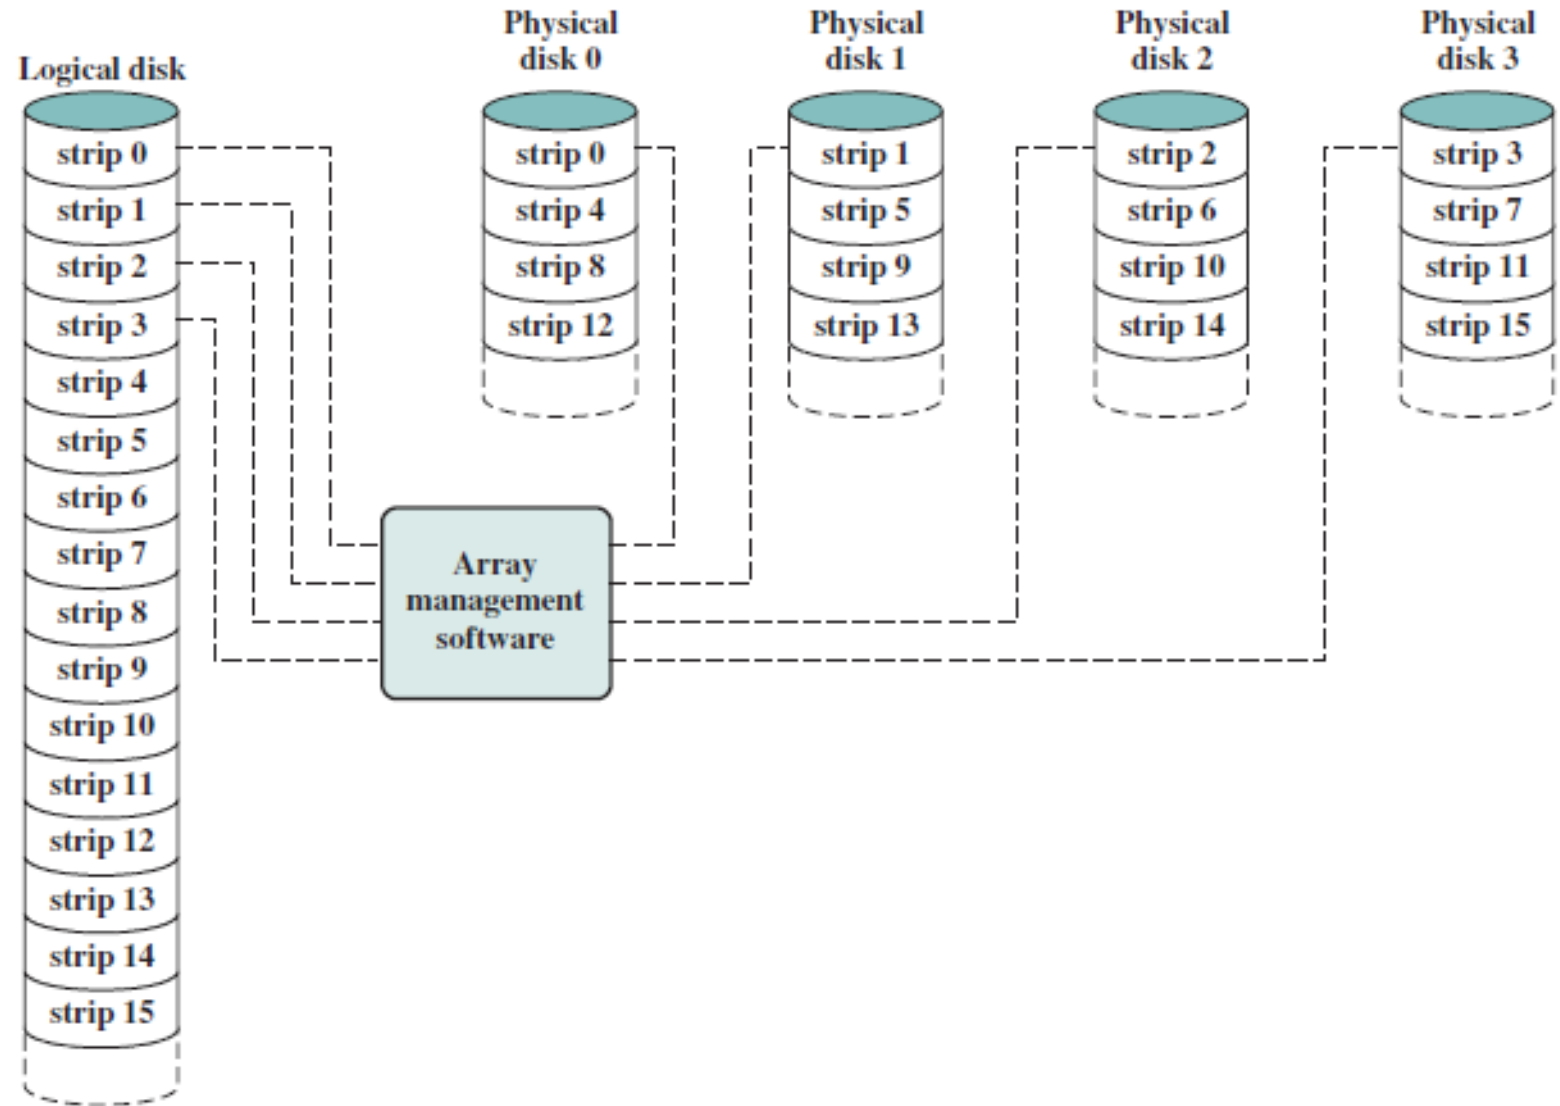

Figure 6.9 Data Mapping for a RAID Level 0 Array
- Figure 6.9 indicates the use of array management **software** to map between logical and physical disk space.